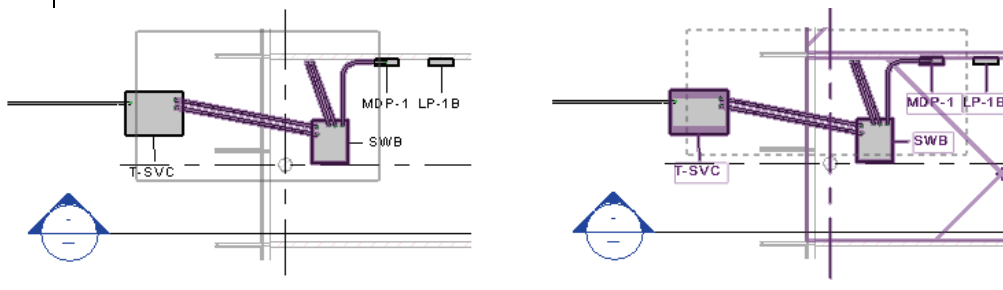

Figure 2–14
- If you click and drag the cursor to *window* around elements, you have two selection options, as shown in Figure 2–14. If you drag from left to right, you only select the elements completely inside the window. If you drag from right to left, you select elements both inside and crossing the window.